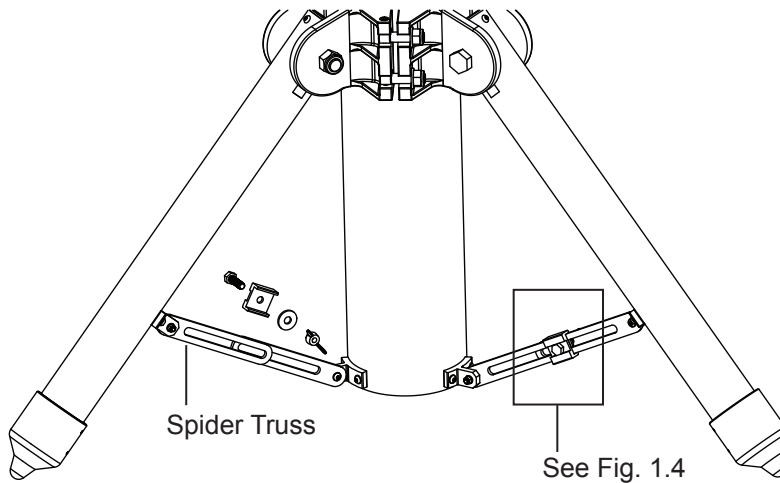
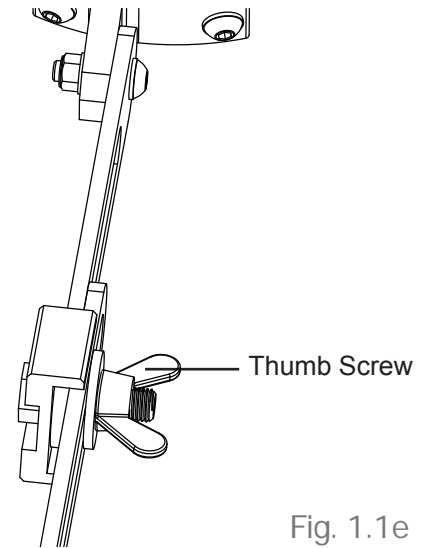

Fig. 1.1d
Fig. 1.1e
5. Assemble the 3 adjustable spider trusses as shown in Fig 1.1d and Fig 1.1e. Do not tighten the thumb screws at this moment.
- Tighten the locking ring when the tripod top is leveled. (Fig. 1.1d).